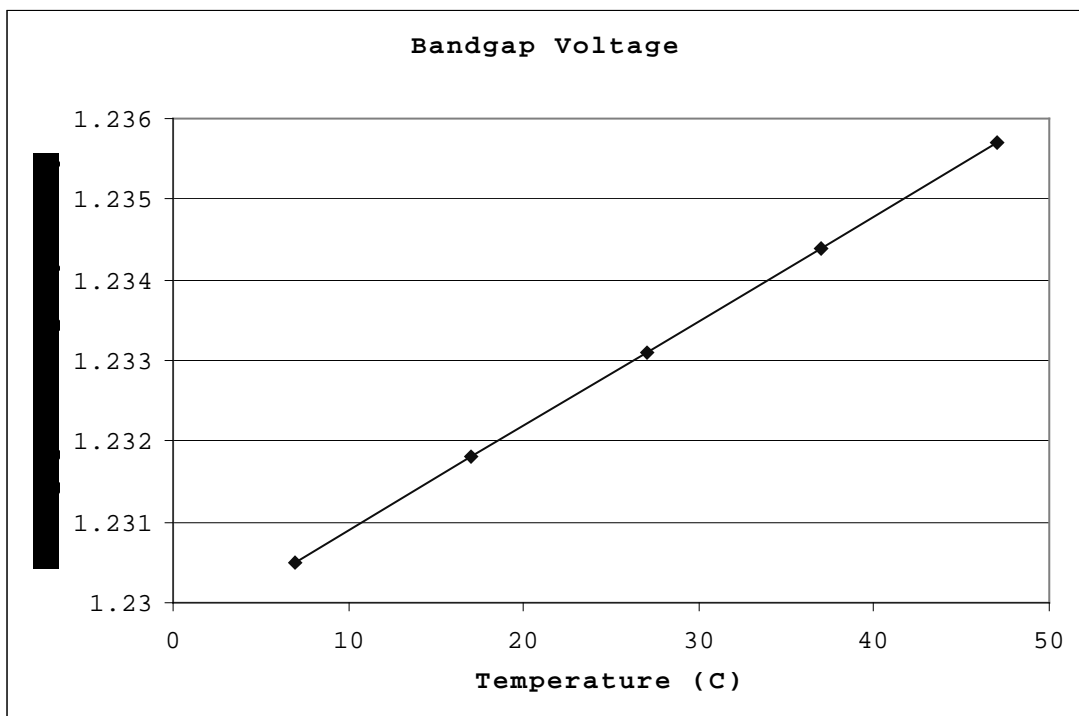

Figure 1: Bandgap Reference Temperature Dependence
- Figure 1: Bandgap Reference Temperature Dependence
Variations of the bandgap output with respect to temperature are illustrated in Figure 1. The bandgap voltage varies only by 5 mV over a temperature range of 40 Celsius. Performance is summarized below:
Current varies by +/- 0.17% around the nominal temperature of 27 C. Since the capacitor has virtually a zero temperature coefficient, this will also be the relative error in time measurements. We see by comparing Figures 1 and 2 that the temperature dependence of the current source is almost completely due to the temperature dependence of the bandgap reference.